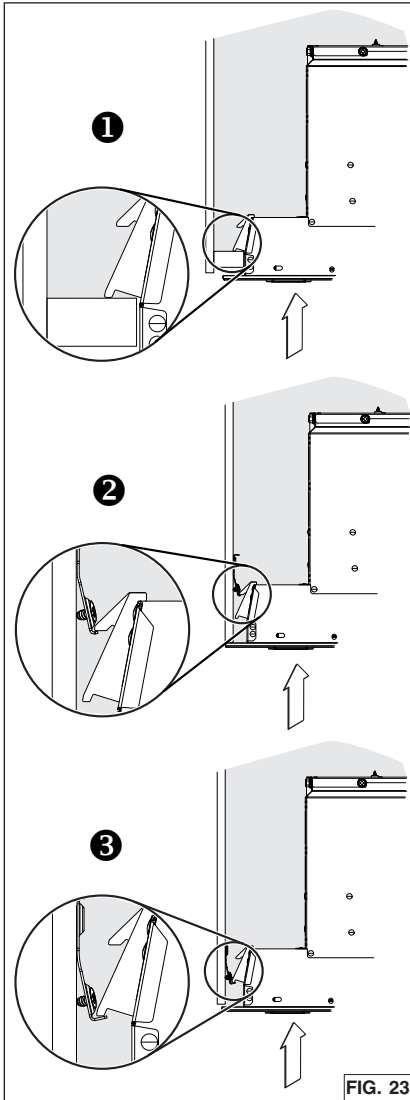

FIG. 23
2. Insert the unit in the cabinet, until you feel a 'click' from both sides of the unit, confirming that the Ease of Install hooks rest on the top of the cabinet bottom sides **1**, or cabinet brackets **2** or **3** (FIG. 23). Move the unit from left to right, from rear to front and up to ensure the Ease of Install hooks are retaining the unit inside the cabinet. NOTE: The unit will be protruding below the cabinetry until tightened.